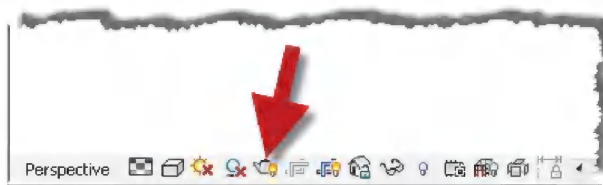

FIGURE 13-2.10 Render dialog icon
24. Switch to your camera view **3D View 1** and then select the **Show Rendering Dialog** icon on the *View Control Bar*; it looks like a teapot (Figure 13-2.10).